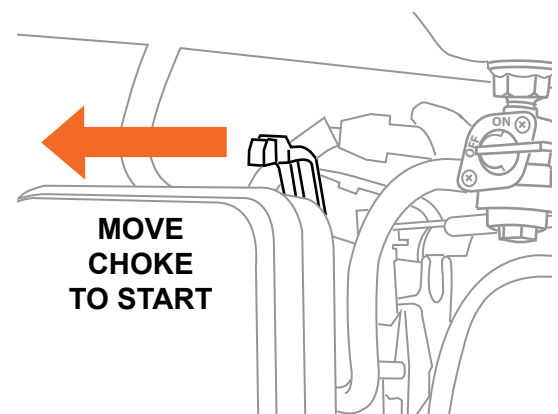

Figure 6
3. Turn the engine's choke lever to the START position (see Figure 6). Set the choke lever to the run position only when the engine has started or upon restarting a warm engine.